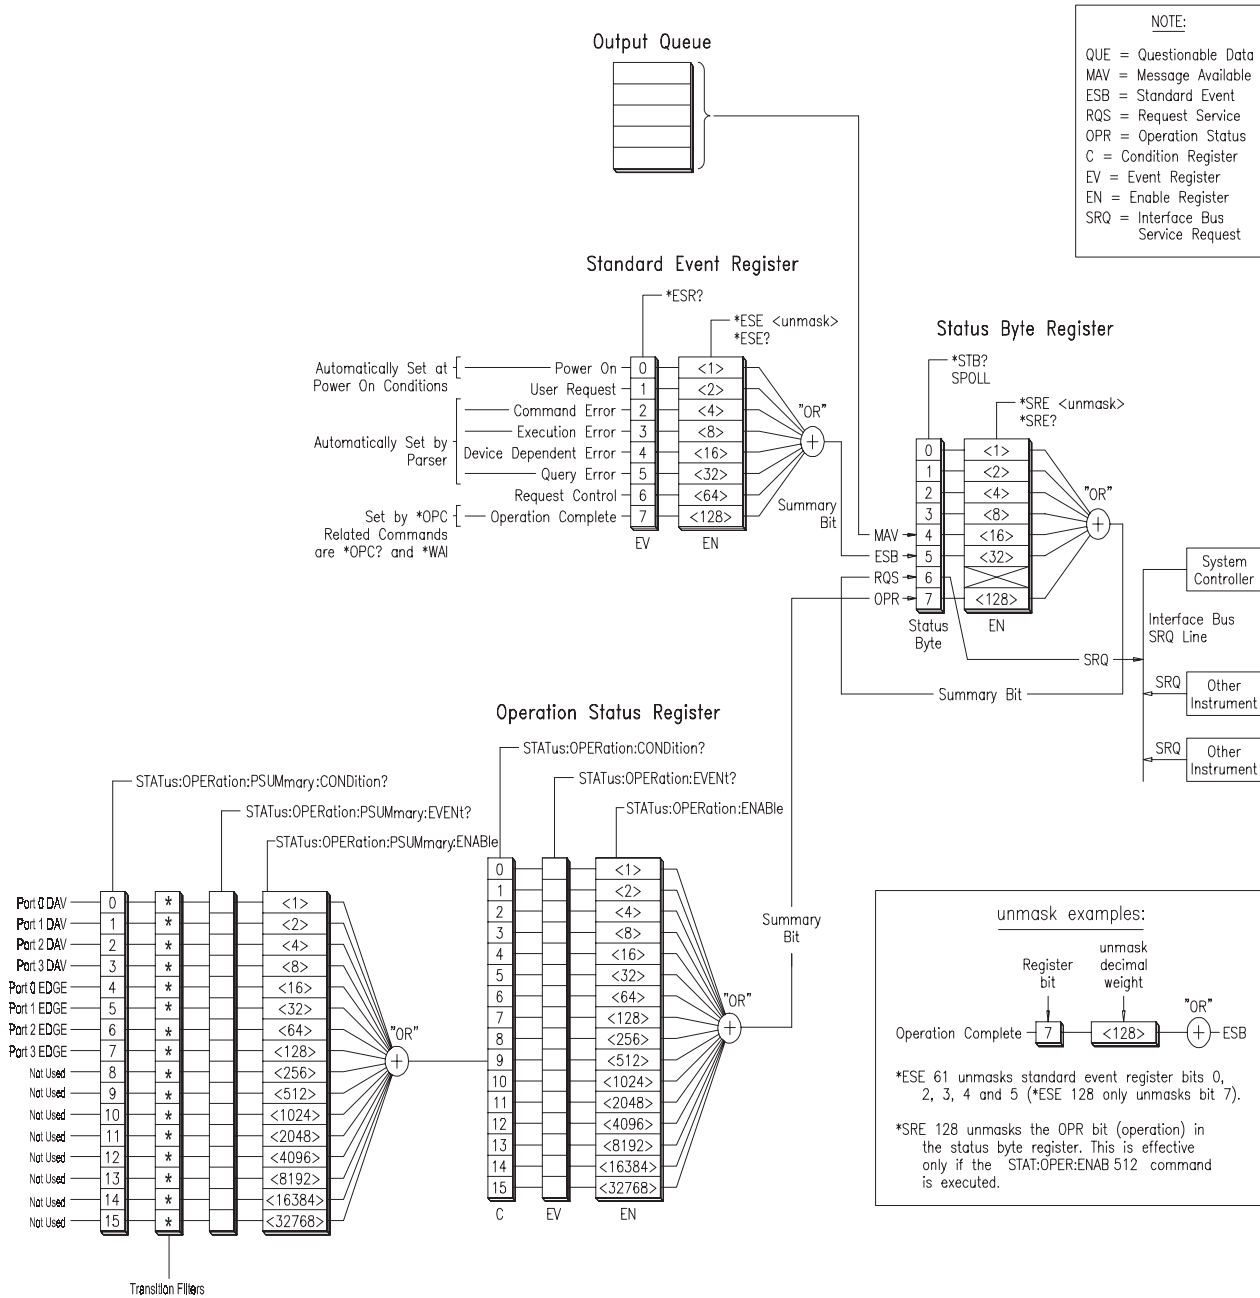

Figure 3-1. HP E1459A Status System Register Diagram
The STATUS system contains five registers, two of which are under IEEE 488.2 control: the Event Status Register (*ESE?) and the Status Byte Register (*STB?). The Operational Status bit (OPR), Service Request bit (RQS), Event Summary bit (ESB), Message Available bit (MAV) and Questionable Data bit (QUE) in the Status Byte Register (bits 7, 6, 5, 4 and 3 respectively) can be queried with the *STB? command. Use the *ESE? command to query the *unmask* value for the Event Status Register (the bits you want logically "OR'd" into the Summary bit). The registers are queried using decimal weighted bit values. The decimal equivalents for bits 0 through 15 are included in Figure 3-1.
- <mask> determines which OPERation Status conditions are summed. See Figure 3-1. The events detected in the Port Summary Status Register are reported in bit 9 of the Operation Status Register which in turn is reported in bit 7 of the Status Byte Register.
- The only defined bit is bit 9 which is the summary of the Data Available and Edge Status for Ports 0, 1, 2, and 3. See Figure 3-1.
- Bits 0 through 3 reflect Data Available on Ports 0 through 3 respectively; bits 4 through 7 reflect edge events on Ports 0 through 3 respectively. See Figure 3-1.
- This mask determines which Operation Status Port Summary Events are summed and reported in bit 9 of the Operation Status Register. Bits 0 through 3 reflect Data Available on Ports 0 through 3 respectively; bits 4 through 7 reflect edge events on Ports 0 through 3 respectively. See Figure 3-1.